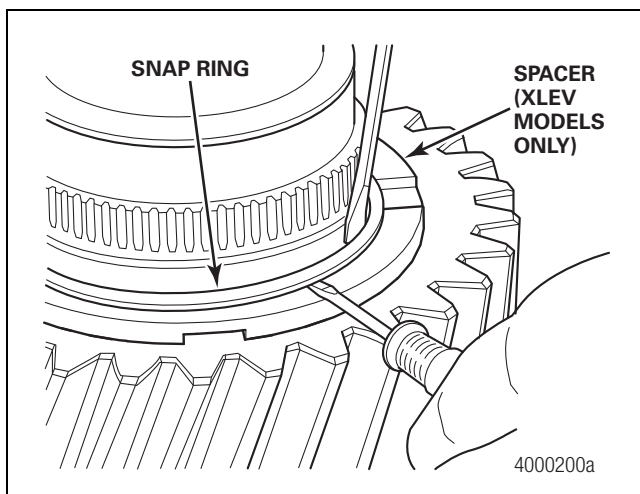
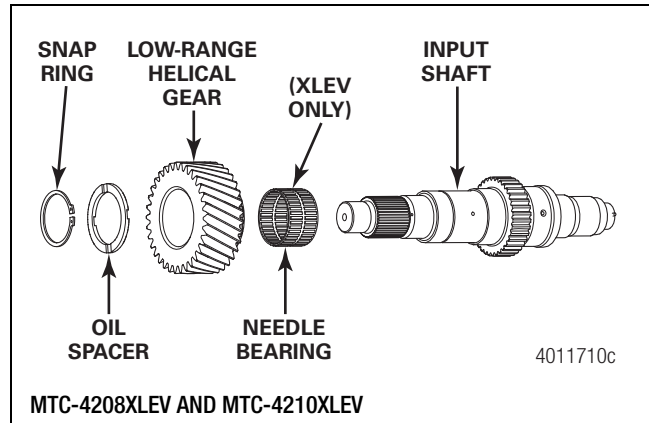

Figure 4.27
Figure 4.28
5. Remove the snap ring that retains the small helical gear on the input shaft. For MTC-4208XLEV and MTC-4210XLEV, remove the spacer from the input shaft. Lift the small helical gear off the shaft. For MTC-4208XLEV and MTC-4210XLEV, remove the needle bearing from the input shaft. Figure 4.27 and Figure 4.28.